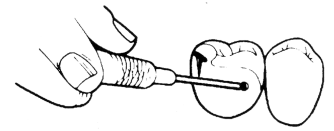

Fig. 7
12. Prepare the lingual of the retainer crown for the clasp arm. Eliminate any lingual undercuts and prepare a dimple on the lingual of the crown away from the female with a #3 round bur. (Fig. 7)